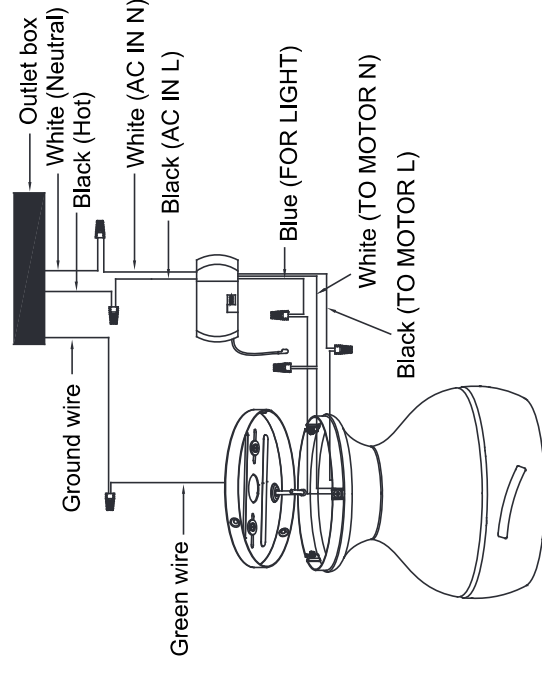

Fig. 10
Step 1. Motor to Receiver Electrical Connections: Connect the black wire from the fan to the black wire marked "TO MOTOR L" on the receiver. Connect the white wire from the fan to the white wire marked "TO MOTOR N" on the receiver. Connect the blue wire from the fan to the blue wire marked "FOR LIGHT" on the receiver. Secure all the wire connections with the plastic wire nuts provided (**Fig. 10**).
Step 2. Receiver to House Supply Wires Electrical Connections: Connect the black (hot) wire from the ceiling to the black wire marked "AC in L" from the receiver. Connect the white (neutral) wire from the ceiling to the white wire marked "AC in N" from the Receiver. Secure the wire connections with the plastic wire nuts provided (**Fig. 10**).
Step 3. If your outlet box has a ground wire (green or bare copper) connect it to the fan ground wires: Secure the wire connection with a plastic nut provided. Place the receiver into the motor housing. After connecting the wires, spread them apart so that the green and white wires are on one side of the outlet box and black and blue wires are on the other side (**Fig. 10**).